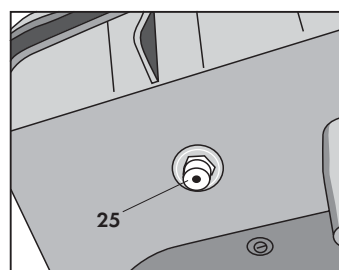

Fig. 29
- b) Loosen the drain plug (25) (Fig. 29). Drain off any water left in the boiler and tighten the drain plug again.
- e) Loosen the drain plug (25) (Fig. 29) and drain off the de-scaling product, rinse the boiler several times to eliminate any trace of de-scaling fluid.
- f) Tighten the plug (25) (Fig. 29). For boiler filling, refer to "Preparing the appliance ready for use", on page 7.